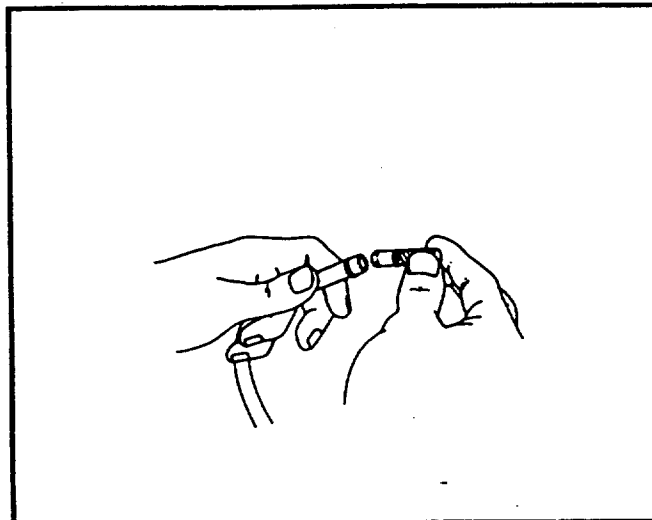

FIGURE 23
- Remove fuel filter from bottom of assembly (Figure 23).